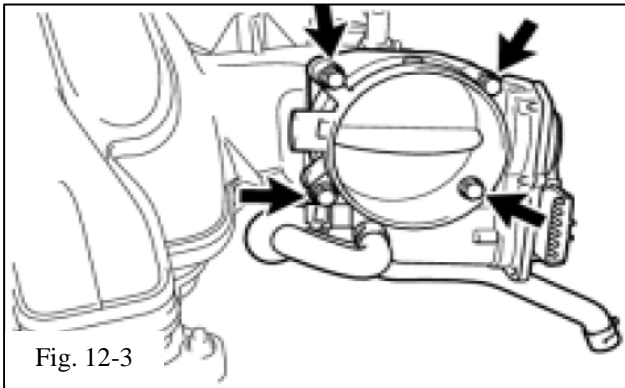
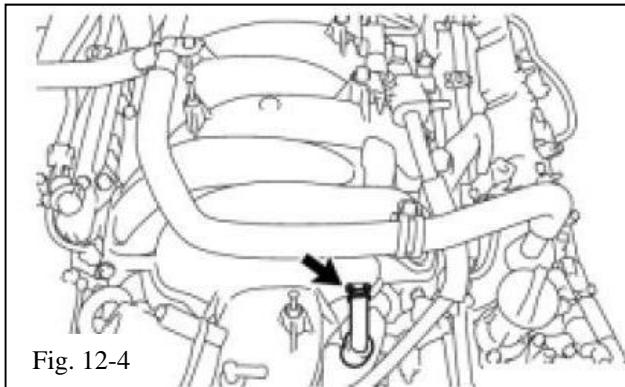

Fig. 12-3
Fig. 12-4
- (d) Remove the 4 bolts and remove the throttle body from the manifold (Fig. 12-3).
- (1) Save these bolts and the throttle body.
- (2) Discard the throttle body gasket.
- (g) Disconnect the No. 1 ventilation hose (Fig. 12-4).